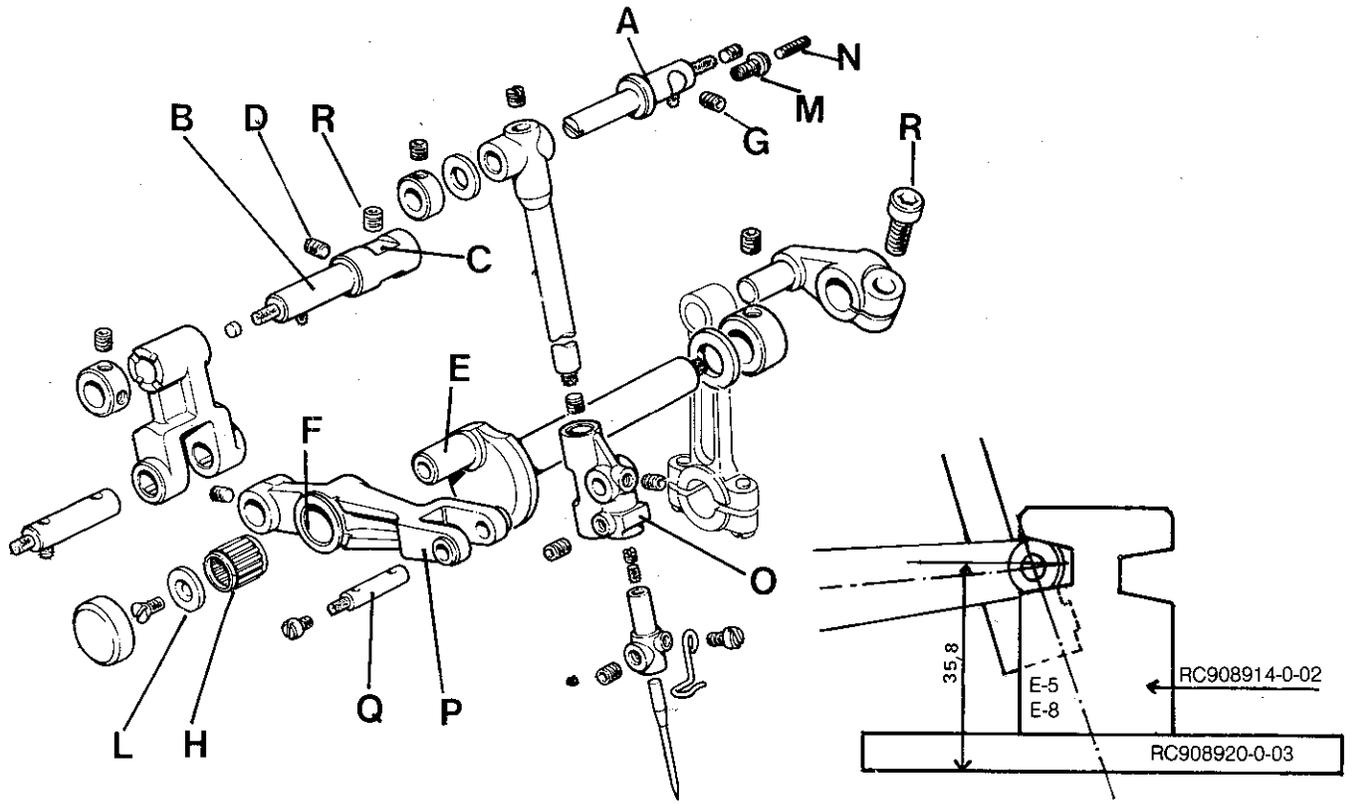

fig.2
INSTRUCTIONS FOR SETTING ON AND ADJUSTING THE NEEDLE CONTROL MECHANISM (fig. 2)
- Arrange the needle control mechanism assembly (fig. 2) with pins A and B positioned as follows:
- b) calibrator support pin B with plane C corresponding to screw D (fig. 2).
- Set pins A and B in their respective holes on the machine head, taking care to insert the button of hand control E (fig. 2) at the same time in the hole in lever F. When inserting calibrator pin B (fig. 2), lubricator wick A (fig. 3) must be pulled from the end inside the machine so that the other end is embedded in the spot-facing, pressing spring B (fig. 3) and thus permitting said pin to pass. Releasing wick A (fig. 3) spring B (fig. 3) extends, giving reliable lubrication contact between wicks A and C inside the pin.
- Center locking screws R - G (fig. 2) of the two pins and insert roller retainer H, taking care to choose the correct tolerance value, which should be that indicated on washer L (fig. 2).
- Tighten screw M (fig. 2) until it is right down on needle bar eccentric support pin A (fig. 2)
- Set the needle clamp slider to the correct height. When the slider is brought to its lowest position there must be a distance of 35.8 mm. (1.13/32") between the axis of pin Q (fig. 2) and the surface of plate RC908920-0-03 (fig. 2-inset). Adjustment is made by turning screw R (fig. 2).
Gauge RC908914-0-02 and plate RC908920-0-03 are used as shown in fig. 2 - inset, are a help in obtaining easy and accurate adjustment.
- Center the needle in the needle plate hole. The operation is made accurate and easy by screw M (fig. 2) which, being right up against the pin, offers the possibility of moving it just by screwing.
- Block screw M by fully tightening grub screw N (fig. 2)
- Center the needle clamp slider O (fig. 2) in the fork of lever P (fig. 2), dividing play equally, by moving pin B (fig. 2).
- Tighten locking screws D - R (fig. 2).
This offers the possibility of orienting the rear needle guard so that the needles are correctly positioned in relation to the two internal planes. (see Fig. 2) Tighten the locking screw, taking care not to alter the height setting.